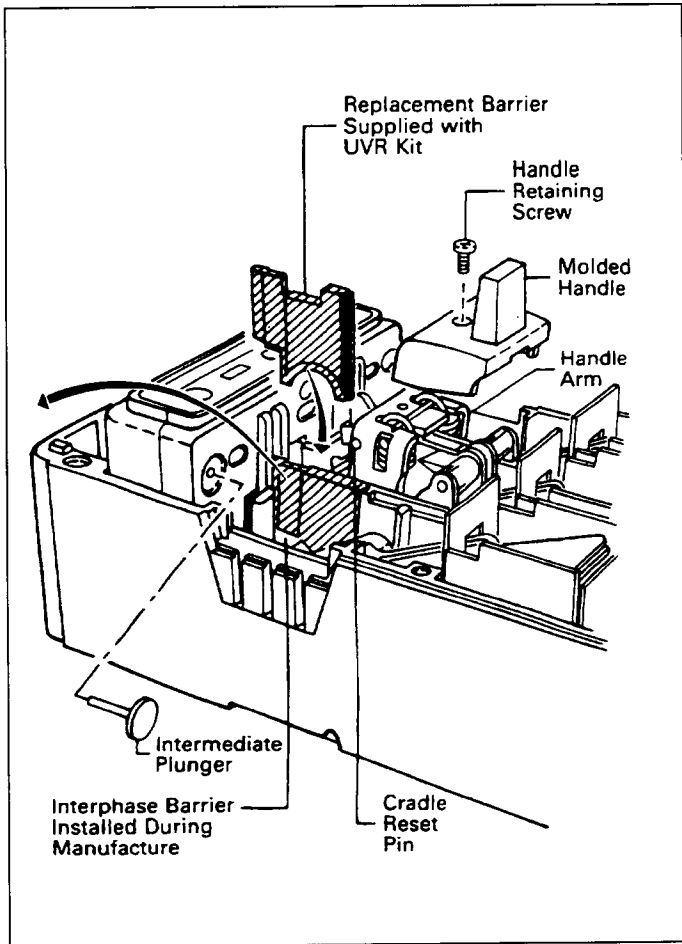

Fig. 2-3. Interphase Barrier Replacement
2-6. Remove handle-retaining screw and molded handle from handle arm. (See Fig. 2-3). The molded handle should lift vertically off of the handle arm.
2-7. Remove interphase barrier between accessory mounting cavity and operating mechanism on the side of the breaker where the UVR is to be installed. (See Fig. 2-3.)
2-8. Install notched replacement interphase barrier supplied with kit in base. (See Fig. 2-3.)
a. Position intermediate plunger in trip unit as shown in figure 2-3.
2-10. Put molded handle on handle arm, and install retaining screw. (See Fig 2-3.)